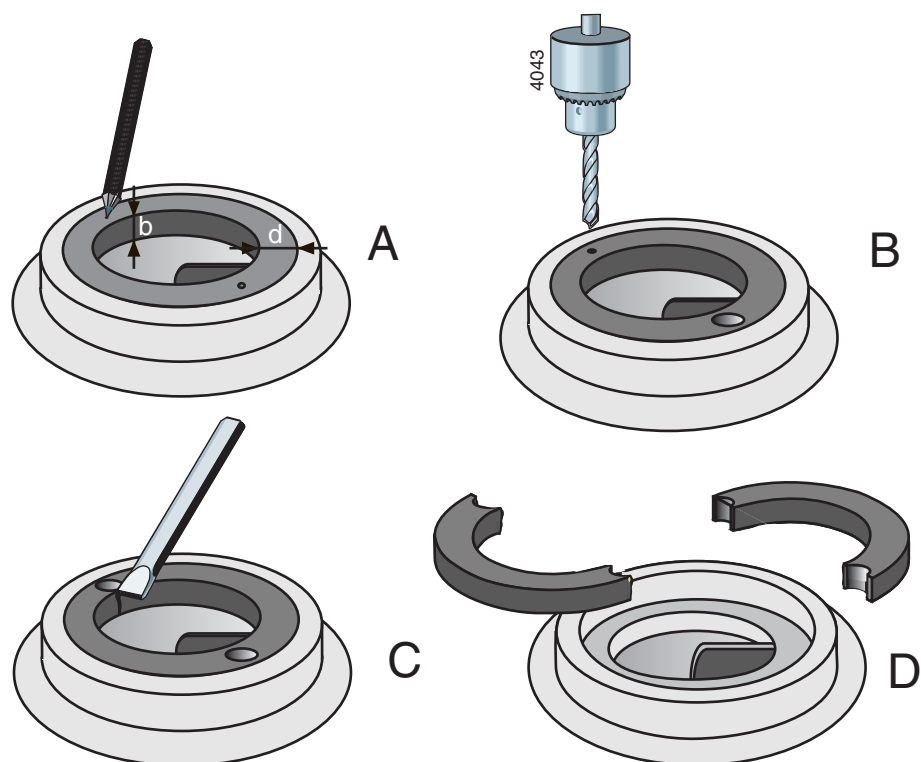

Figure 12: Removal of wear ring.
- 1 Measure the thickness (d) and the width (b) of the ring, see figure 12 A.
- 2 Make a centre hole in the middle of the edge of the ring at two opposite points, see figure 12 B.
- 3 Use a drill with a diameter just a little bit smaller than the thickness (d) of the ring and drill two holes in the ring, see figure 12 C. Don't drill deeper than the width (b) of the ring. Take care not to damage the fitting edge of the pump casing.
- 4 Use a chisel to cut the remaining part of the ring thickness. Now you can remove the ring in two parts from the pump casing, see figure 12 D.